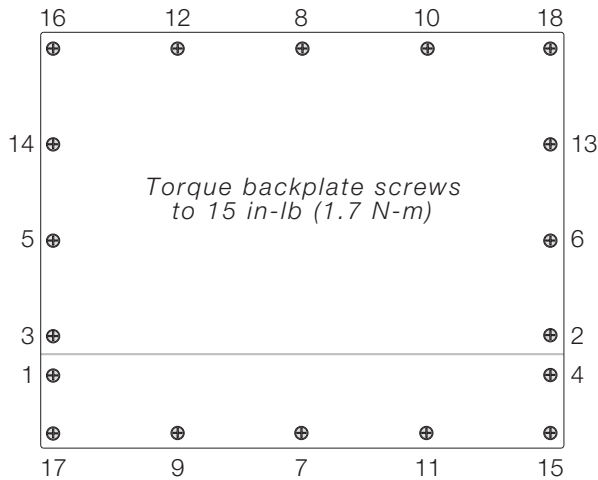

Figure 3. 920i Enclosure Backplate
8. Position the backplate over the enclosure and reinstall the backplate screws. Use the torque pattern shown in Figure 3 to prevent distorting the backplate gasket. Torque screws to 15 in-lb (1.7 N-m).